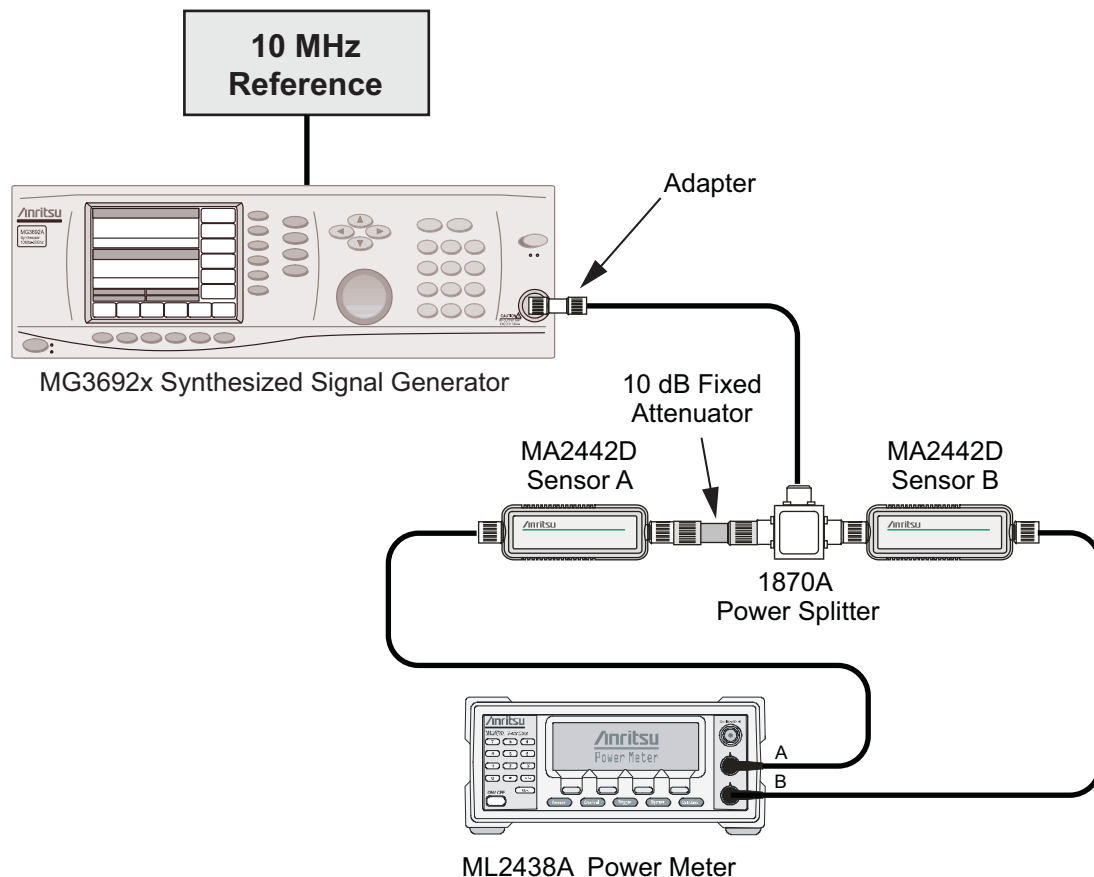

Figure 2-1. Absolute Amplitude Accuracy Verification Pretest Setup
3. Install the 10 dB Fixed Attenuator to the other Power Splitter Output, and then connect Sensor A to the end of the attenuator as shown in Figure 2-1 on page 2-9.